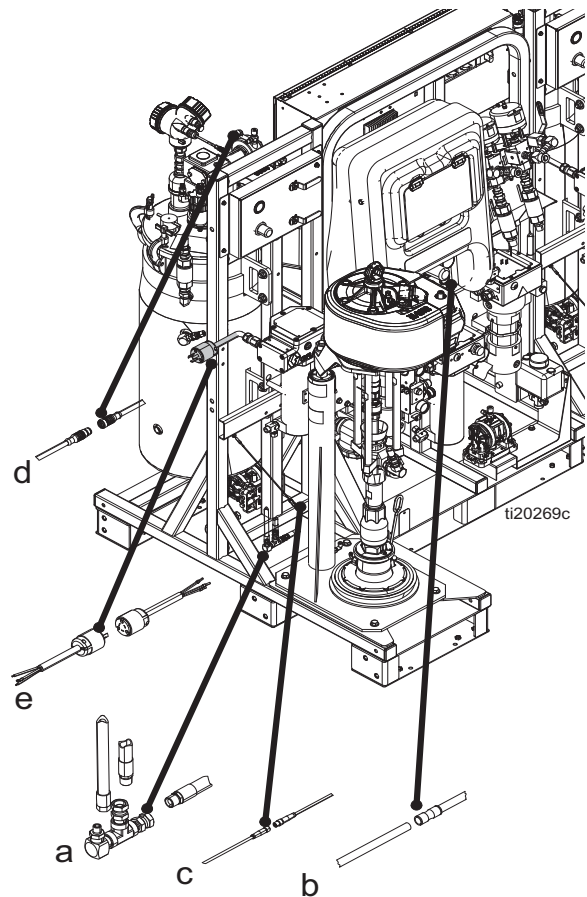

FIG. 15
- a. Connect the red 1/2 in. air hose to the swivel union. See the 'a' in FIG. 15.
- b. Connect the 1/4 in. OD air signal tube to the tube that has a tube connector. This is the feed pump pilot signal. See the 'b' in FIG. 15.
- c. Connect the small cable with an M8 connector to the mating M8 connector. See the 'c' in FIG. 15.
- d. Connect the larger cable with an M12 connector to the mating M12 connector. This is the level sensor connection. See the 'd' in FIG. 15.